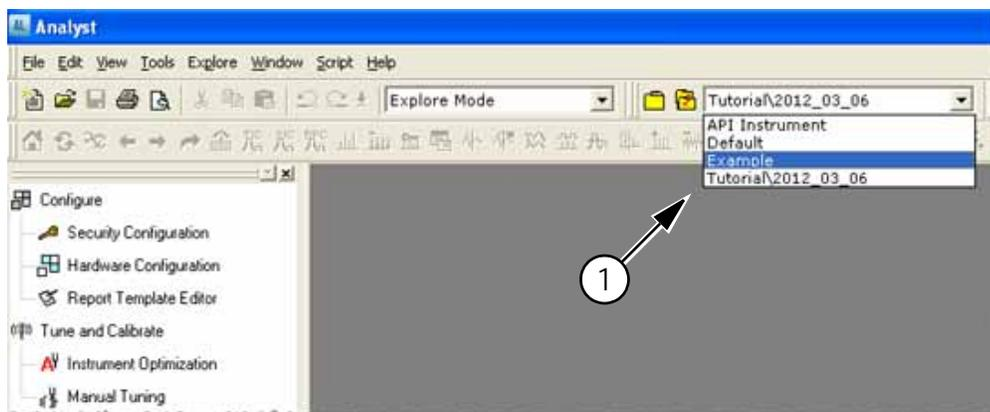

Figure 2-7 Project List
- On the software toolbar (Figure 2-7), from the project list, click the required project or subproject.